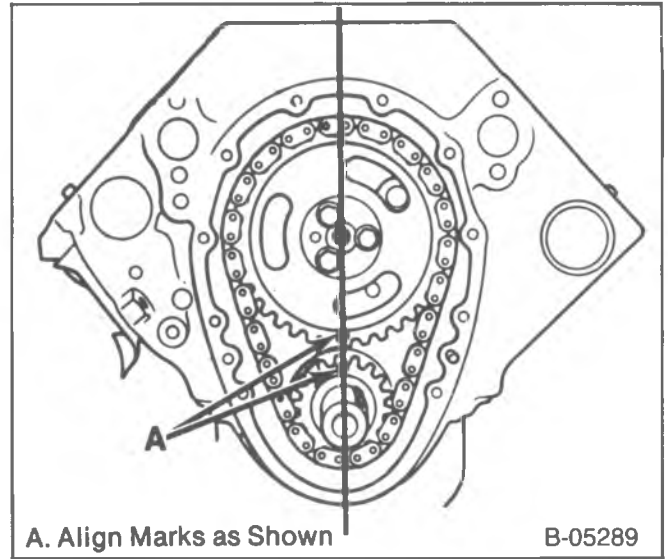

Figure 25—Timing Marks
Remove or Disconnect (Figures 25, 26, and 27)
- Align the timing marks (figure 25).
Install or Connect (Figures 25 through 27 and 35 through 38)
- Line up the timing marks on the camshaft sprocket and crankshaft sprocket (figure 25).